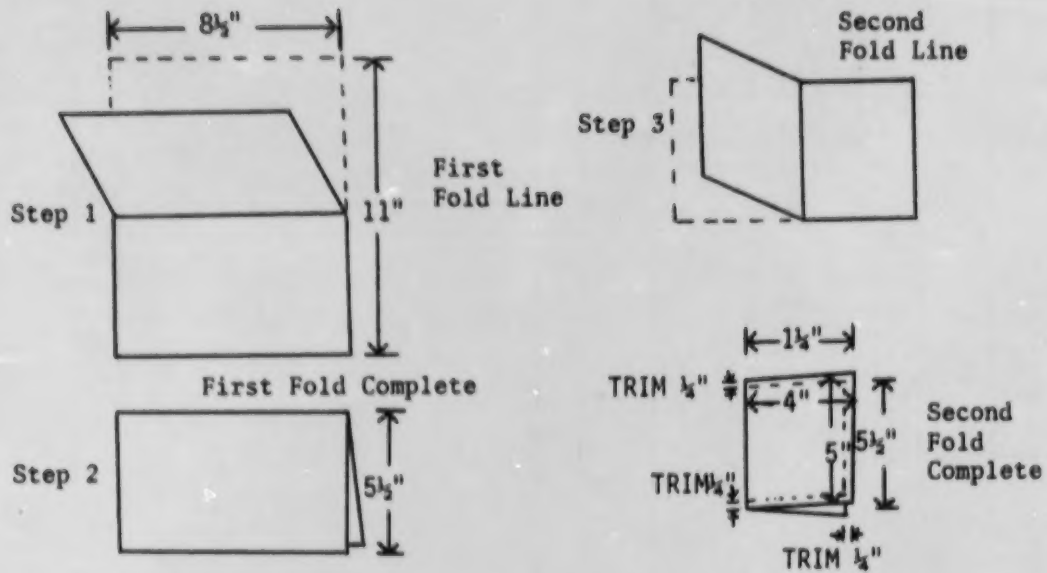
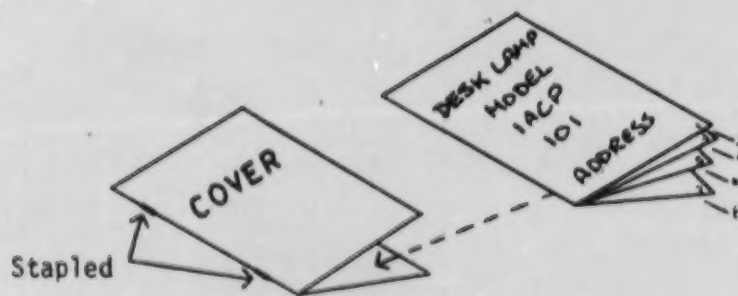

Fig. 85-11. Service Manual
Fig. 85-12. How Manual Will Be Covered
- I. The pages you write and design will be printed in booklet form. Figures 85-11, 85-12, and 85-13 show how (1) one sheet of paper will be folded to make an eight-page booklet which will be covered with a separate "Raparound" Cover (Fig. 85-12). The finished booklet size will be trimmed to 4" x 5". Be certain to keep your designs within this space (Fig. 85-11).
- IX. Fold your completed manual as shown in Fig. 85-11. Fold and staple cover in place as shown in Fig. 85-12. Trim all edges except the stapled fold using a scissors (1/4" on three sides). The finished size should be 4" x 5".